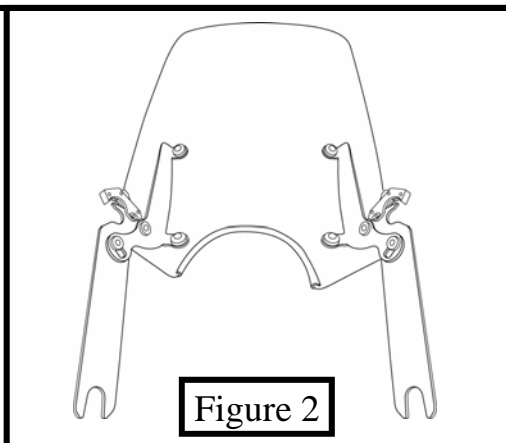

Figure 2
4. Install the two mounting plates onto the windshield, using the bolts that are pre-assembled on the mounting plates. The Santoprene Grommets should be inserted through the holes in the windshield so that the flat round part of the Grommet lies flat on each side of the windshield. *Tabs point in towards the headlight.* (See Figure 2)